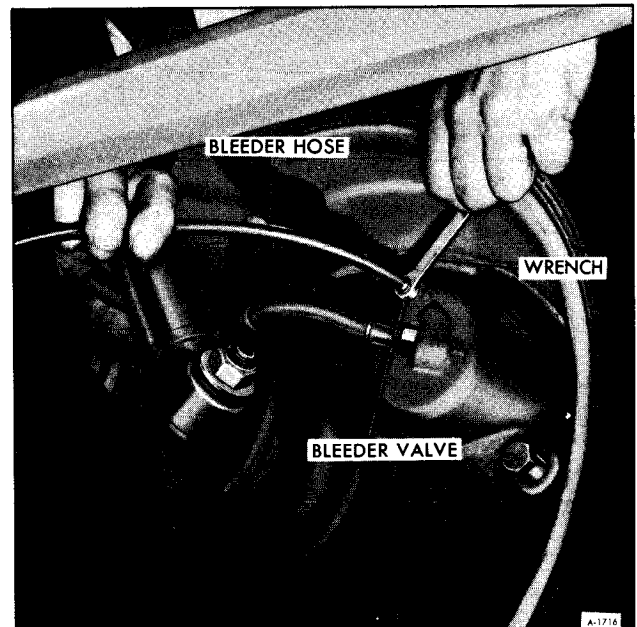

Figure 2—Brake Bleeder Wrench and Hose
2. Install bleeder wrench on bleeder valve. Slip a brake bleeder hose over ball of wheel cylinder bleeder valve (See figure 2). Place lower end of bleeder tube in a glass jar that is partially filled with clean brake fluid. Position end of tube so that it will remain
3. Install Bleeder Wrench on bleeder valve. Slip a brake bleeder tube over ball of wheel cylinder bleeder valve (figure 2). Place lower end of bleeder tube in a clean glass jar. Unscrew bleeder valve $3/4$ of a turn.